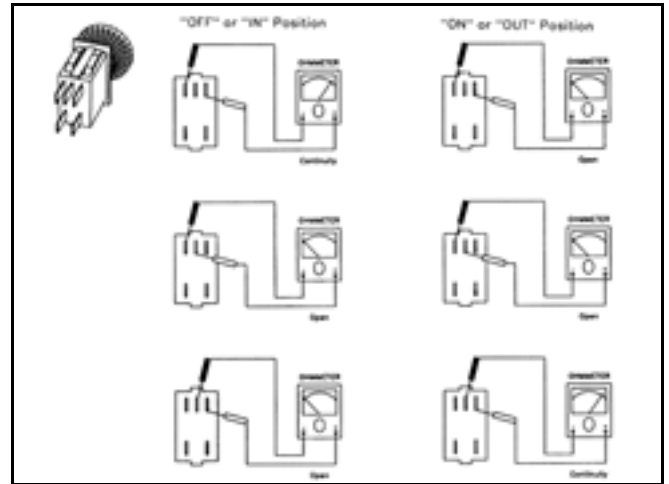

Figure 231
4. Verify that there is continuity between the appropriate terminals in the “ON” and “OFF” positions, Figure 231.
5. Replace the switch if your test results do not correspond with those given in Figure 231.